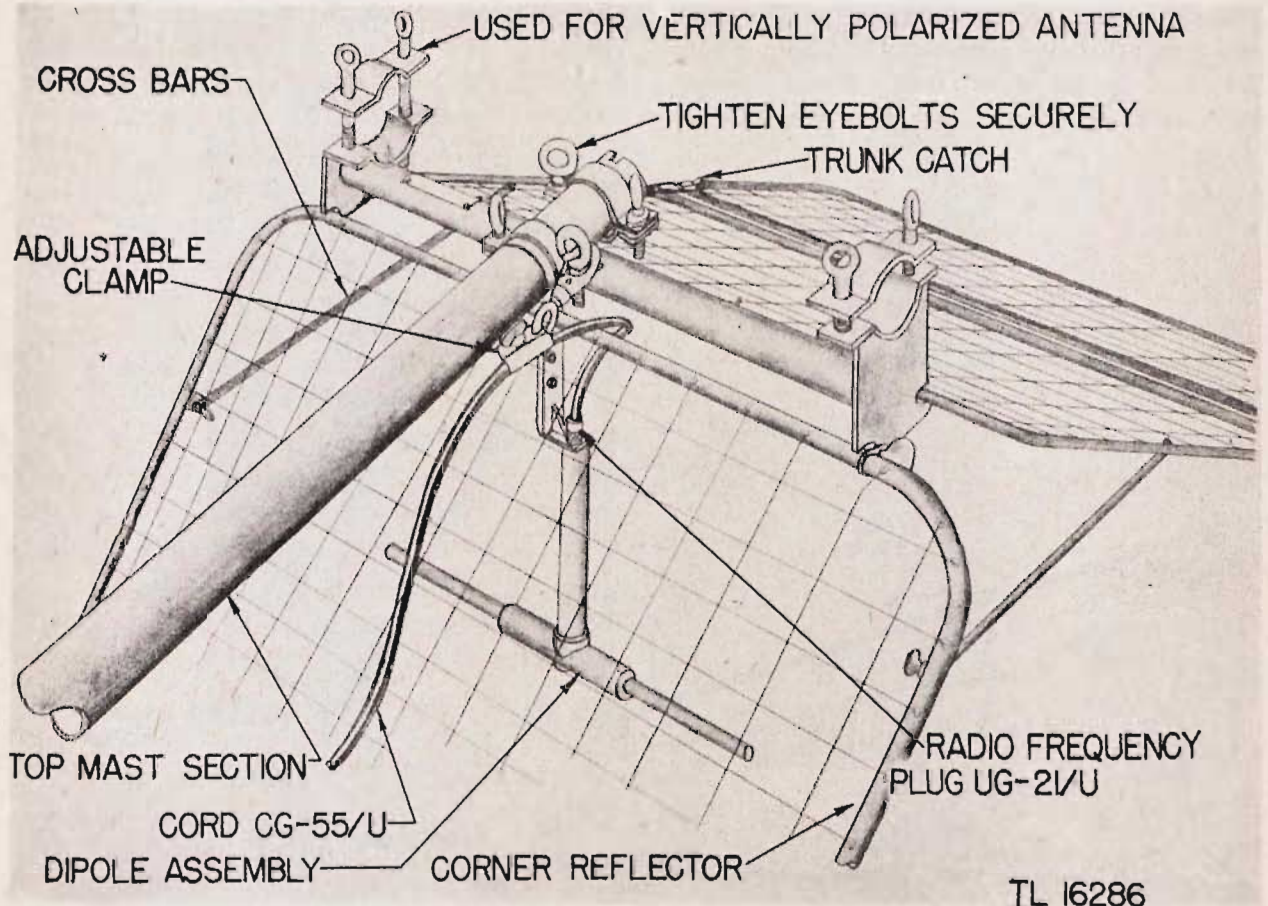

Figure 38. Antenna Assembly AS-52/TRC-8 (XC-3) mounted on antenna support.
b. Unfold the corner reflector and snap the trunk catches and cross bars into place. Mount the antenna assembly on the antenna mast (fig. 38) and fasten securely.
d. Unroll a 60-foot Cord CG-55/U and attach the plug on one end to the receptacle on the base of the dipole (fig. 38).